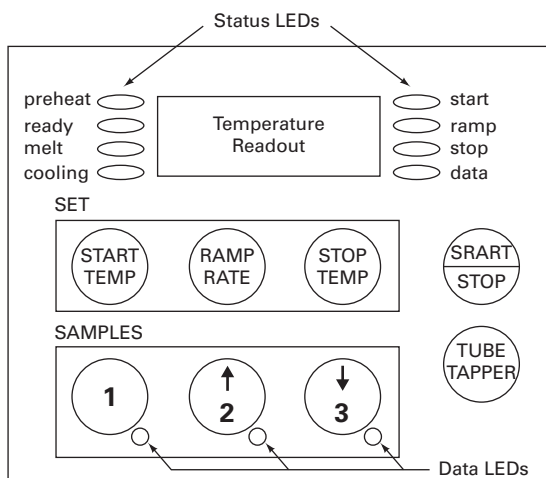

FIGURE 12.6 DigiMelt control panel.
10. Each blue button (“1,” “2,” and “3”) lets you store four values for a total of 12 readings. Unless you REALLY need to, don’t do it. The memory recall associated with each button does a rollover—goes back to the first recorded temperature—after you press the button four times, and keeping track of what 12 temperatures mean—yikes. Since you only recorded two temperatures on button 1, then if you press that button two more times, the first temperature (onset melting) should appear. Press it again, and the second temperature (end of melting) should appear. These would be your two temperature readings, and a difference of 2°C or less indicates a pure compound (Fig. 12.6).